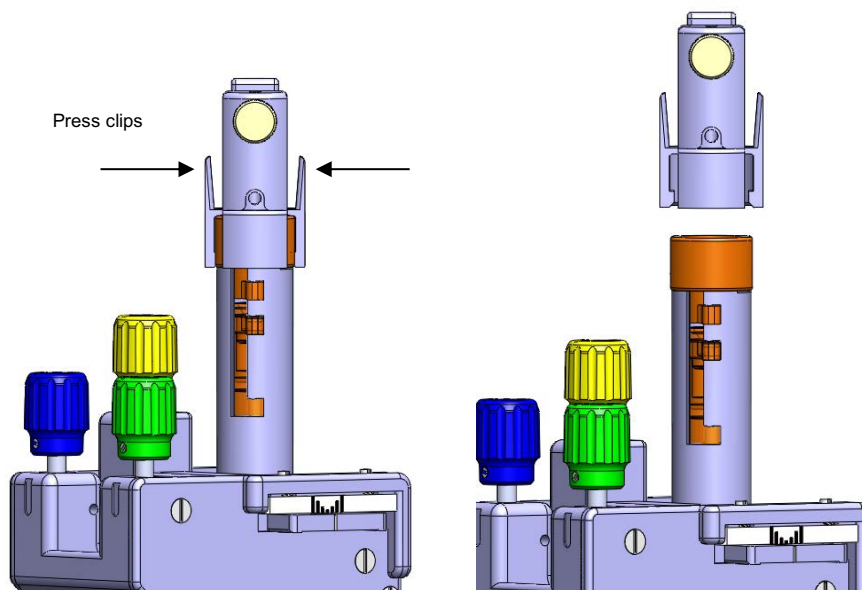

Figure 27: Removing the Dock and Lock
- Note:** To facilitate easier attachment to the Cap, it may be necessary to pinch the center of the Lock and Dock Assembly to flare out the Dock elements with white paint. **See Figure 27.**
4. Remove the Dock and Device Lock Assembly by squeezing the clips to separate it from the SMARTFrame. See Figure 27.